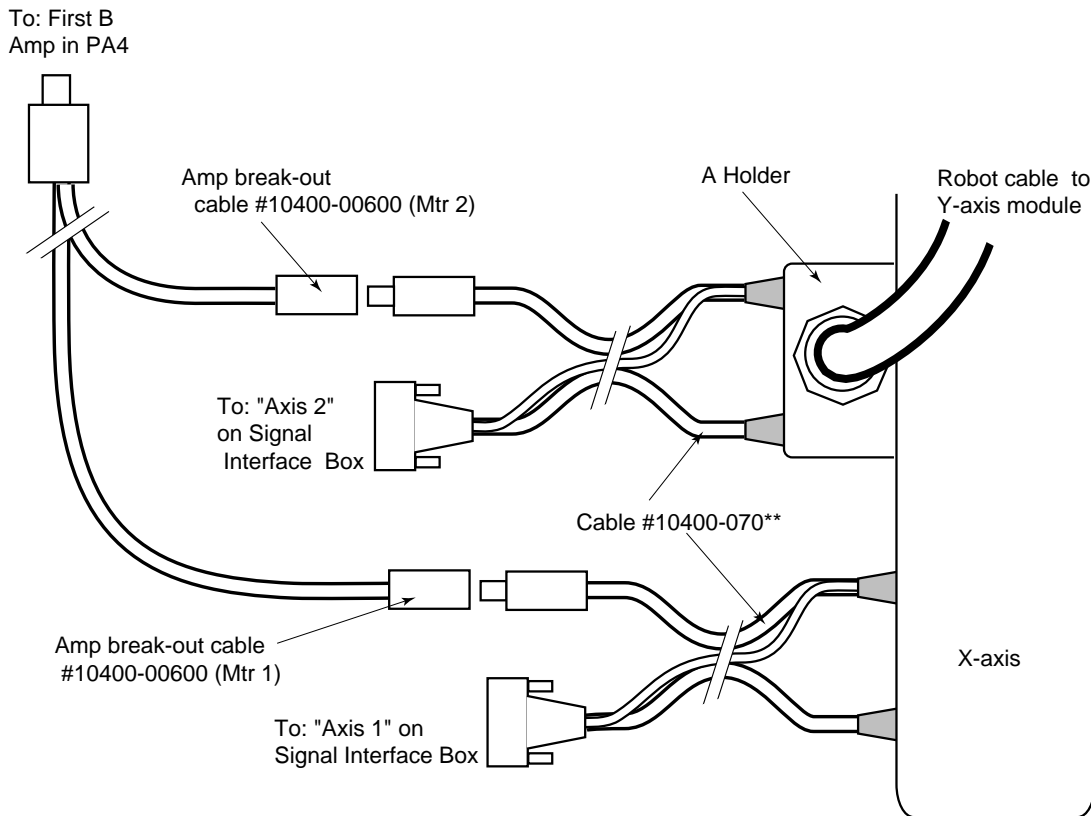

Figure 4-56. Connecting to an Adept MV Controller
- a. Connect the two barrel ends of the cable to the X-axis module as shown in Figure 4-56. These connectors have different pin sizes and cannot be installed incorrectly.
- d. Attach the A holder end of the robot cable to the side of the X-axis module as shown in Figure 4-56 (refer to Section 4.3 for holder rotation and mounting).
- f. Connect the two barrel ends of the cable to the A holder as shown in Figure 4-56. These connectors have different pin sizes and cannot be installed incorrectly.